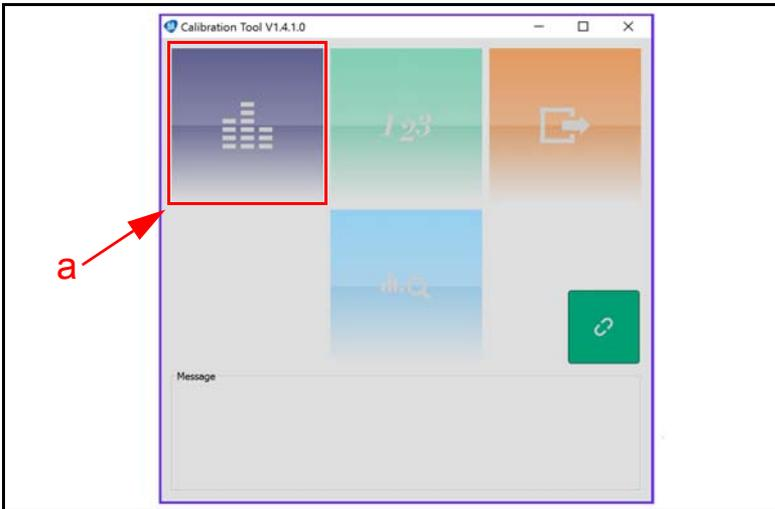

Figure 8 DBV-500 Calibration Tool
7. Confirm that the DBV-500 Calibration Tool is running, as shown in Figure 8.
8. Click the Sensor Calibration function screen button (Figure 8 a).